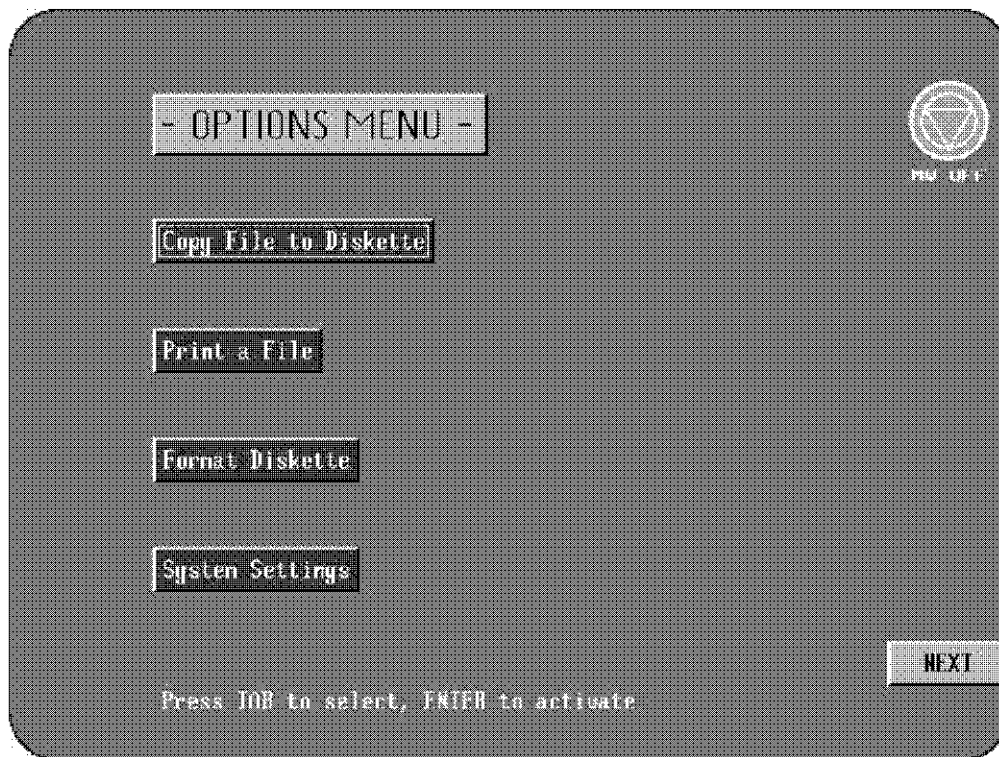

Figure 3-17: Options Screen
The Options Screen (figure 3-17) will be displayed after exiting a treatment, or by pressing the OPTIONS soft key on the Main Screen.
1. Place a diskette in the Control Unit floppy disk drive. Use the TAB key to select FORMAT DISKETTE function on the Options Screen (*figure 3-17*) and press the ENTER key.
11. Tab to the OK on the Set Date and Time Pop-up screen and press ENTER to return to the Options Menu Screen (*figure 3-17*).